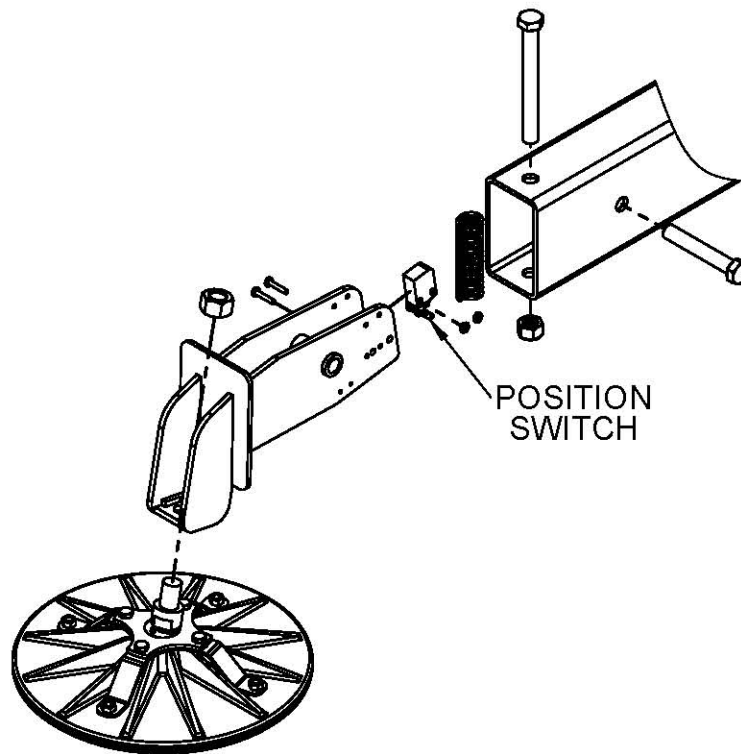

Figure 3-2. Outrigger Position Switches
- If the LED is lit before the footpad makes contact with the ground or if the LED remains unlit after the weight is transferred to the outrigger, the position switch or wiring is faulty. Refer to Figure 3-2.